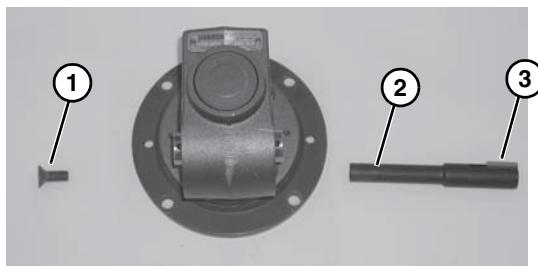

Figure 33
7. Remove shaft locking screw (Figure 33, item 1), remove gear reducer output shaft (Figure 33, item 2) and key (Figure 33, item 3).
Output shaft (Figure 33, item 2) is held in Gear Reducer with a tapered press fit. Removal may require use of an arbor press.
8. Insert the new shaft with key (Figure 33, item 3) into new gear reducer.